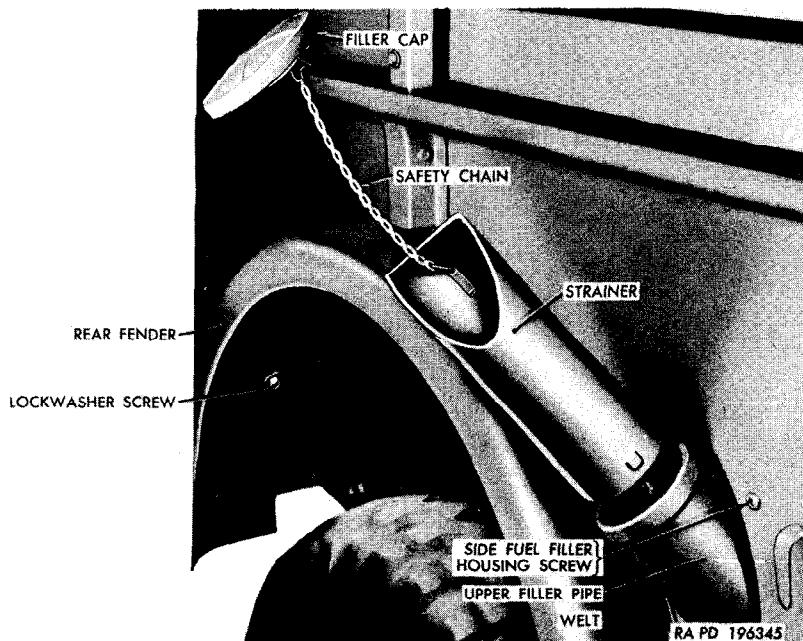
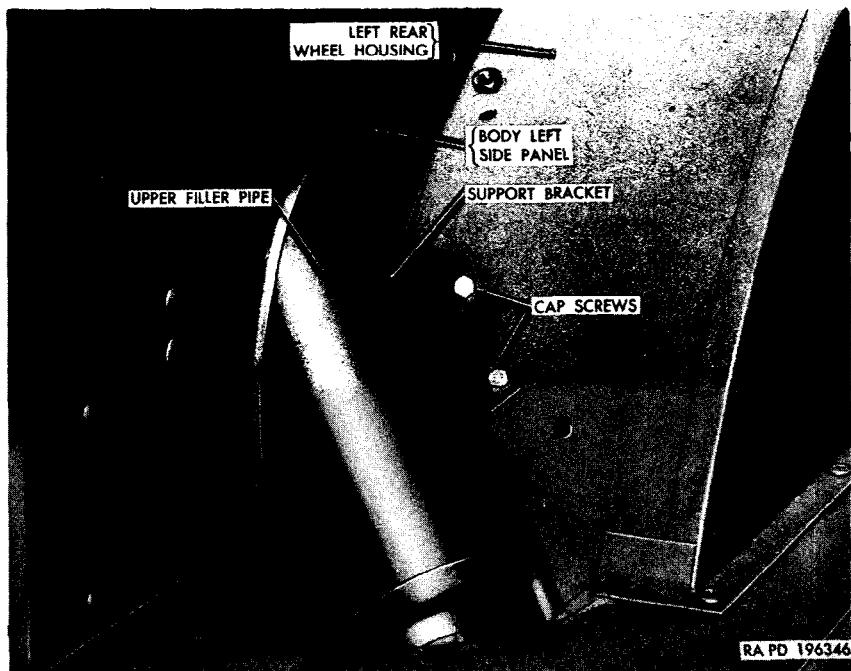

Figure 112. Fuel fillercup, strainer, and upper filler pipe.
Figure 113. Upper fuel filler pipe (cargo truck M37 or command truck M42).
c. *Replace Filler Pipe Strainer and/or Cap.* Remove the fillercap, unhook the safety chain, and remove the strainer from the filler pipe (fig. 112). Install a new strainer in the filler pipe, attach the safety chain to the cap, and install the cap.
- (2) On cargo truck M37 or command truck M42, remove the eight nuts, lockwashers, and screws that secure the side filler fuel housing, and remove the housing. Remove the two nuts, lockwashers, and screws that attach the upper filler pipe support bracket to the left rear wheel housing (fig. 113).
- (3) On the ambulance truck M43 or telephone maintenance truck V-41, remove the two lockwasher screws that secure the upper filler pipe support bracket, working from the under side of the left rear fender.
- (4) Remove the filler pipe and attached hoses by pulling them from the opening in the side of the vehicle.
- (5) Loosen the two hose clamps and remove the hoses and clamps from the filler pipe and the vent line. Discard the hoses. Replace the hose clamps if they are damaged.
- (6) Clean the hose contacting surfaces of both the upper and lower filler pipes and the upper and lower vent lines and apply a coating of liquid-type gasket cement to the surfaces. Install the filler pipe hose on the upper filler pipe, using a 3-inch length of $2\frac{1}{4}$ -inch (ID) hose. Install the
- vent line hose on the upper vent line, using a $2\frac{7}{8}$ -inch length of $\frac{1}{2}$ -inch (ID) hose. Install the two clamps loosely on each hose.
- (7) Install the upper filler pipe and attached hoses, guiding the hoses over the lower filler pipe and the lower vent line, and alining the screw holes in the support bracket with those in the wheel housing or left rear fender.
- (8) Install the filler pipe support bracket retaining screws. For the cargo truck M37 or command truck M42, install the two $\frac{3}{8}$ -24NF x $\frac{3}{4}$ capscrews, $\frac{3}{8}$ -inch lockwashers, and $\frac{3}{8}$ -24NF nuts (fig. 113). For the ambulance truck M43 or telephone maintenance truck V-41, install the two special lockwasher screws from the under side of the fender into the weld nuts on the bracket. Tighten the parts.
- (9) Position the filler pipe hose so it extends an equal distance over the upper and lower filler pipes, position the two clamps, and tighten the clamp screws. Position the vent line hose and hose clamps in the same manner and tighten the clamp screws.
- (10) For the cargo truck M37 or command truck M42, install the side fuel filler housing. Apply body sealing compound to the flanged edges of the housing and install it in position. Install the five special screws that secure the housing to the rear wheel housing and the floor from the housing side, and install the three special screws that secure the housing to the body panel from outside the body (fig. 112). Install a $\frac{5}{16}$ -inch lockwasher and $\frac{5}{16}$ -24NF nut on each screw and tighten all nuts.